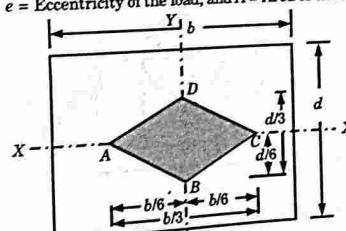

Fig. 4.19.1.
1. Consider a rectangular section of width ' b ' and depth ' d ' as shown in Fig. 4.19.1.